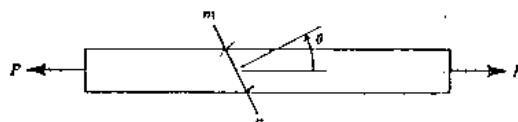

Figure 5
(5) A tension member is composed of two pieces of material that are glued together along the line mn. For practical reasons the angle θ is limited to the range from 0° to 60° . The allowable stress on the glued joint in shear (τ_w) is $3/4$ of the allowable stress in tension (σ_w). What should be the value of the angle θ in order that the bar will carry the greatest load P? Also find the greatest load P (Figure 5). (20%)